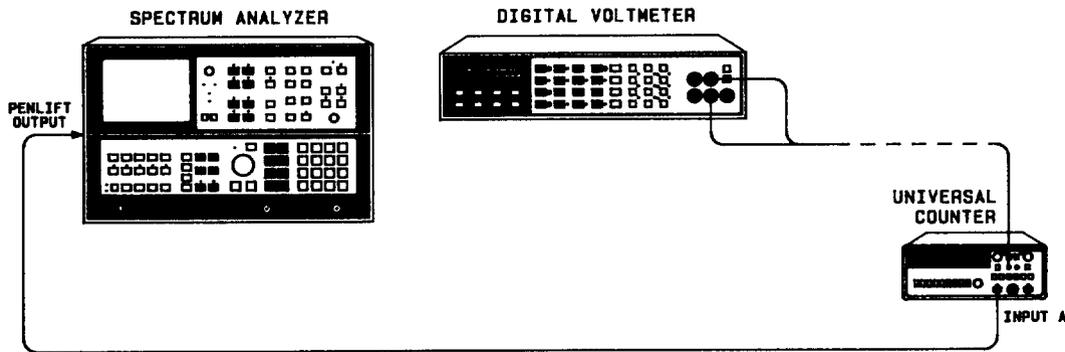

FIGURE 21. SWEEP TIME ACCURACY TEST SETUP
1. Connect equipment as shown in Figure 21.